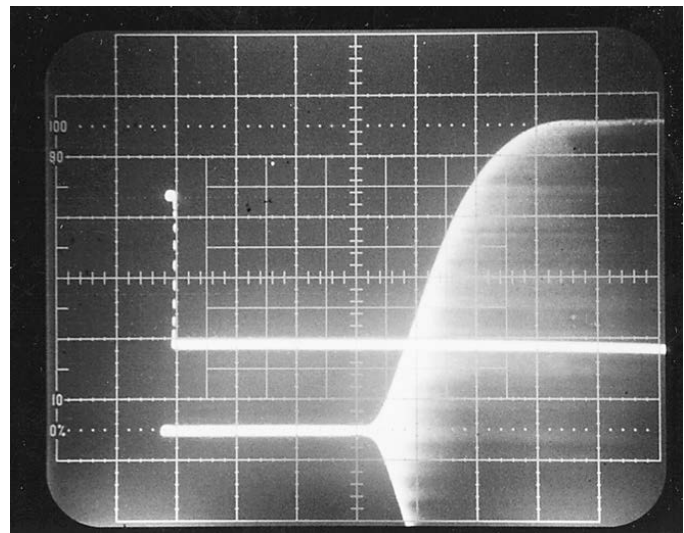

Fig. 4-8A — Oscilloscope Trace of RF Envelope
4.8.3.4 Turn the keying test generator OUTPUT to ON. Adjust the oscilloscope for a display trace similar to Fig. 4-8A. It may be necessary to reduce the generator keying speed. Be sure that the RF power level of the DUT is approximately the same as the carrier level.